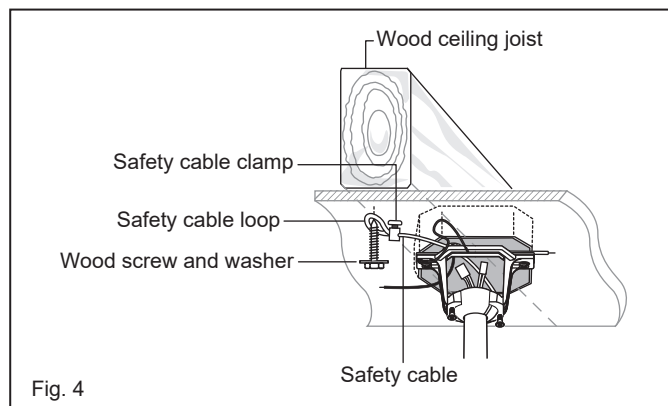

Fig. 4
- 8 Lift ball/downrod/fan into hanger bracket opening. NOTE: The tab opposite hanger bracket opening should fit in slot on ball. (Fig. 4)
- 2 Connect the black lead wires from the switch in the cradle A to the black wires in the switch box. Hot input wire to one of the cradle switch leads. Power lead to the fan is connected to the remaining switch lead. (Fig. 4)